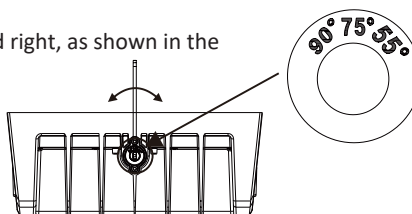

figure 20
2. Adjust the handle to the desired Angle by turning it left and right, as shown in the picture. (Figure 20)